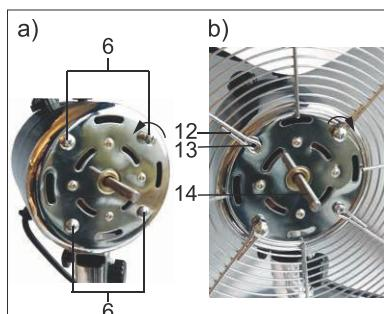

Fig.12: Mounting rear part protective grills
- Unscrew the 4 Phillips screws (6) from the engine block by turning them counter-clockwise. Fig. 12 a)
- Push the rear protective grille (7) with the handle upwards onto the motor axis (14). *The eyelets in the protective grille (12) must be flush with the holes (13) in the engine block.* Fig. 12 a).
- Insert the 4 Phillips screws through the eyelets in the protective grille and into the holes of the engine block (13).